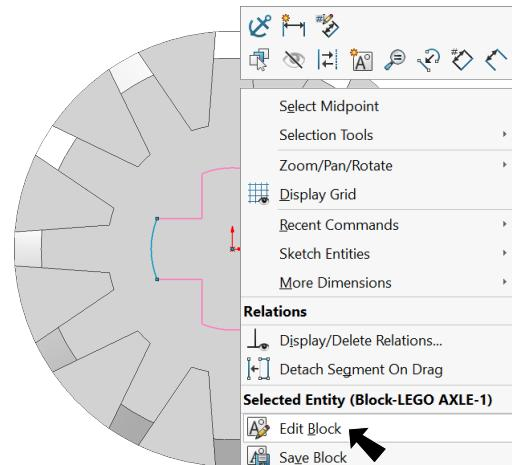

Fig. 27
Step 5. Edit Block, Fig. 27. To edit block, right click the block and click Edit Block .